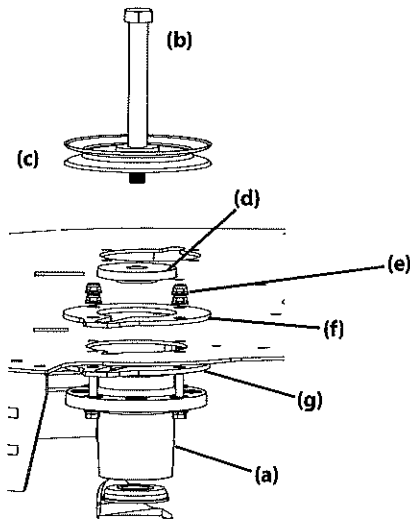

Figure 39
12. Reverse the process to install the spindle assembly. When installing the new spindle assembly be sure to install the hardware exactly as shown in Figure 39 and Figure 39.. Torque the hex flange bolts to 250 ft-lbs. (338.95 N-m) and the flange lock nuts to 21-32 ft-lbs (28.47-43.39 N-m).